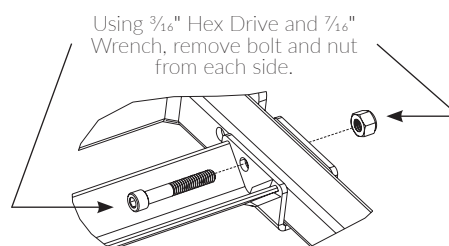

Figure 6-21
- Using a $\frac{3}{16}$ " hex drive and $\frac{7}{16}$ " wrench, remove the bolt and nut from each side of the platform. See Figure 6-21.